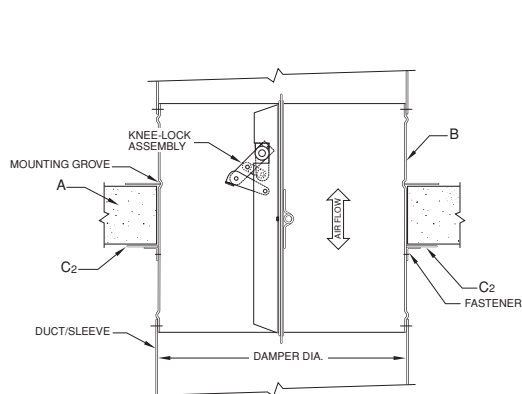
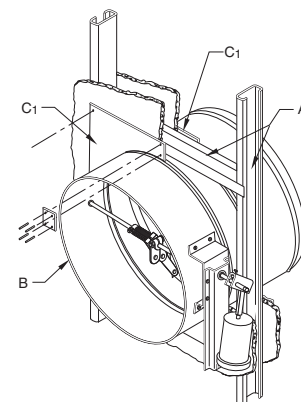

Figure 1a
Figure 2
- A.** Concrete or masonry fire partition shown in figure 1a and 1b. Wood or steel stud fire partition shown in figure 2. See Wood Stud and/or Steel Stud Framing for Fire Dampers In Drywall and/or Cavity Shaftwall Partitions Supplemental Installation Instructions for further vertical installation details. The square or round opening shall be a minimum ¼" (6) larger than the damper sleeve/frame. Damper must be installed with the leading edge of the closed blade within the partition. Damper may be installed with the blade a maximum of 15 degrees from horizontal. For mounting angles that are up to and including 1-½" high, the opening shall be a maximum of ¾" (19) larger than the overall damper and sleeve assembly. When openings are larger than ¾" (19), but less than 6" (152) the mounting angles must be a minimum of 16 gauge (1.5) and must be tall enough to overlap the opening by a minimum of 1" (25).
- B.** The connecting duct shall not be continuous, and shall terminate at the sleeve/frame using one or more of commonly used break away style connections. Refer to Sleeve Termination Supplemental Installation Instructions for further details. Damper sleeve shall not extend more than 16" (406) beyond the rated partition on the actuator side. The opposite side extension shall be a maximum of 6" (152) unless an access door is installed in the sleeve which then permits the extension to be a maximum of 16" (406).